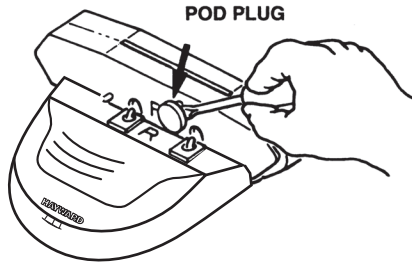

Figure 9
- 1. Check the condition of the “shoes, wings and flaps” periodically.** The shoes and wings have wear indicators on their sides and should be checked occasionally to determine if they need replacing. The shoe wear indicator is a line on the side of the shoe that appears as a difference in texture. When this texture difference is no longer visible at the bottom of the shoe when viewed from either side, the shoes must be changed (see *Figure 8*). Also on the side, the wing wear indicator is a horizontal line which has three (3) vertical lines above it. When you can no longer see the horizontal line, the wings must be changed (see *Figure 9*). The Hayward Tune-Up Kit is available from your dealer. Shoes, wings and flaps may also be purchased separately.
- Using a screwdriver, remove the plugs from both pods (see Figure 9).